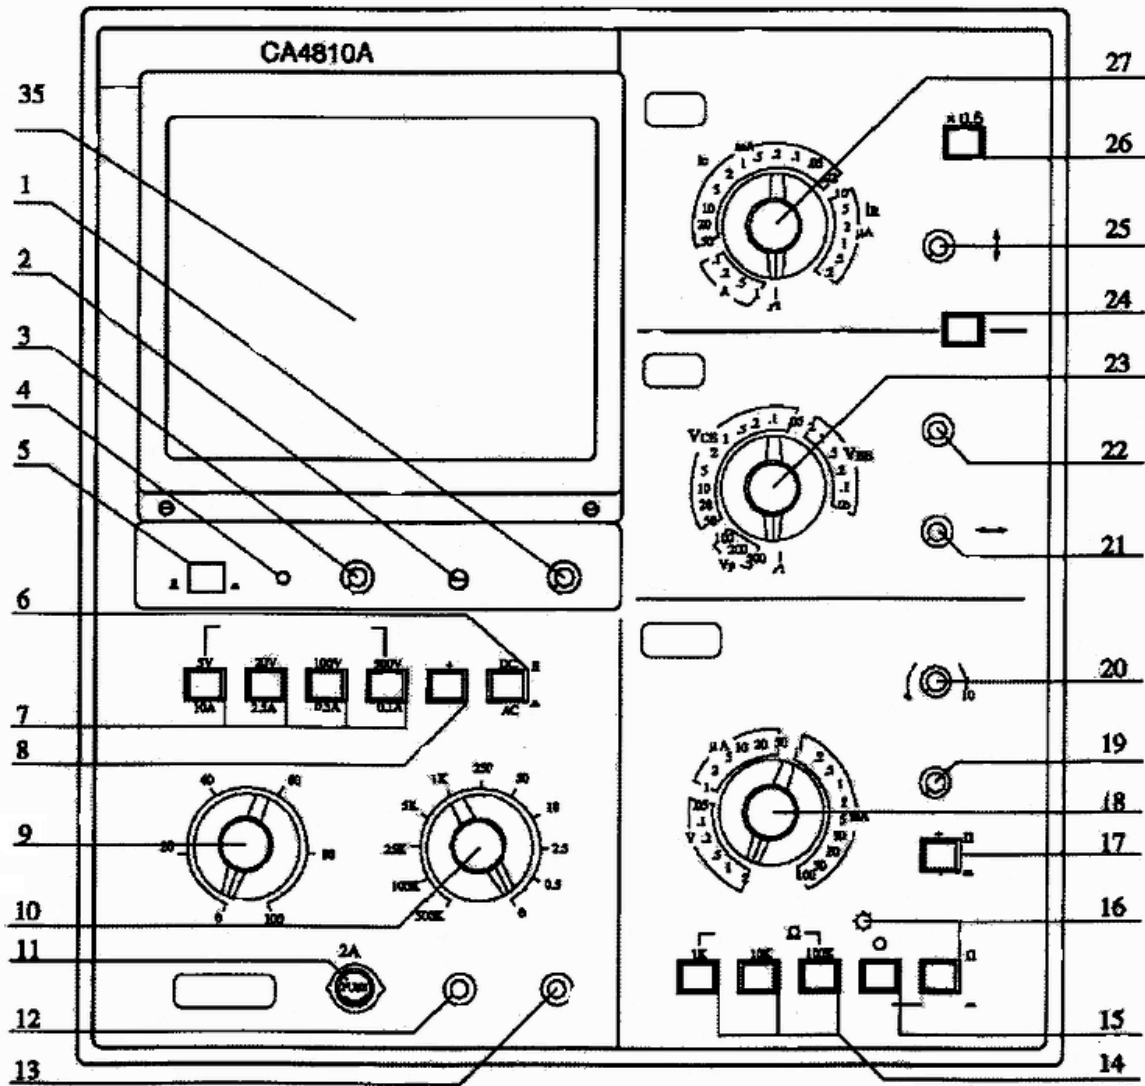
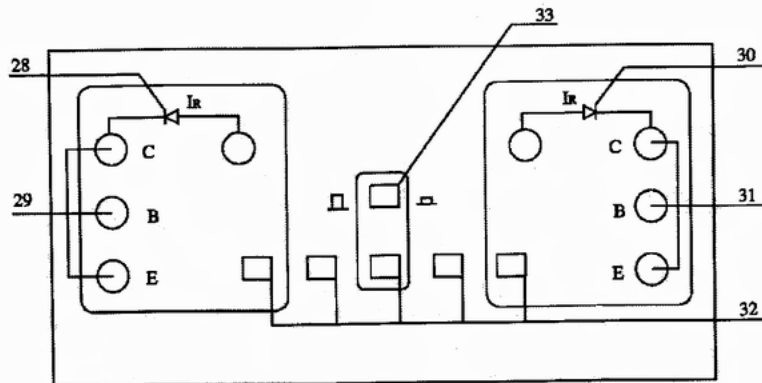
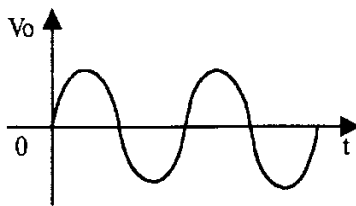

Fig. 2.1
Fig. 2.2
Fig. 2.3
The front panel is shown in figure 2.1, test fixture in figure 2.2 and back panel in figure 2.3.
- (1) CRT focus adjustment.
- (2) Trace tilt adjustment.
- (3) CRT brightness adjustment.
- (4) Power on LED.
- (5) Power switch.
- (6) Collector AC/DC switch:
- AC: the collector is applied with alternate voltage (see fig. 2.3);